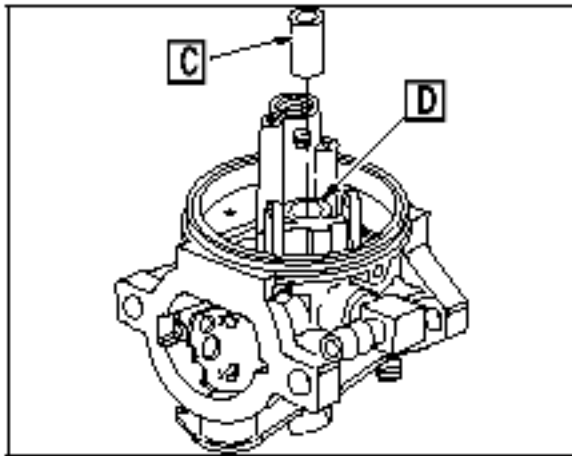

Fig. 128
Press the new fuel inlet seat (C) in until it is flush with the fuel inlet boss ([D] Fig. 128).